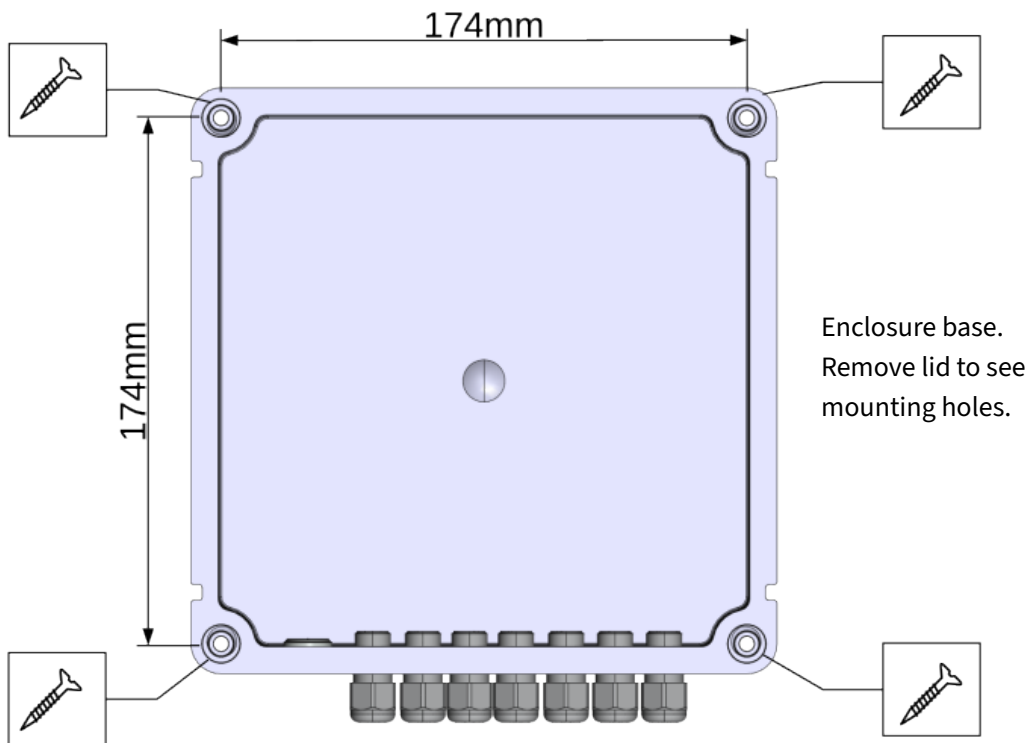

Figure 4: Enclosure mounting hole positions
- ⚠ Only use Procell Constant PC1500 or Varta Industrial Pro 4006 LR06 (AA) primary cells.
- ⚠ Only use the mounting points shown in Figure 4. Do not drill holes in the enclosure or otherwise modify it as this would affect the IP65 rating and may allow water and/or moisture to enter the
2. Use the mounting points provided on the enclosure to mount in the position required. See Figure 4 for mounting points and dimensions.